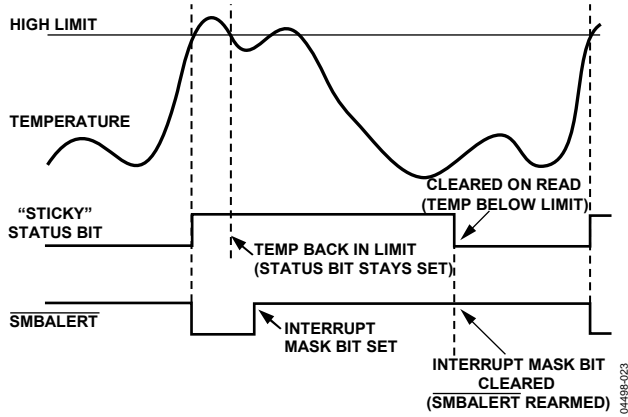

Figure 29. Effect of Masking the Interrupt Source on $\overline{\text{SMBALERT}}$ Output
7. Periodically poll the status registers. If the interrupt status bit has cleared, reset the corresponding interrupt mask bit to 0. This causes the $\overline{\text{SMBALERT}}$ output and status bits to behave as shown in Figure 29.